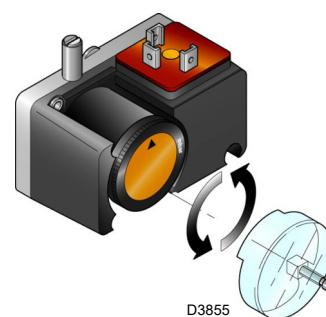

Fig. 32
- Adjust the minimum gas pressure switch (Fig. 32 on page 28) to the start of the scale.
Adjust the minimum gas pressure switch (Fig. 32) after having performed all other burner adjustments with the pressure switch set to the start of the scale.